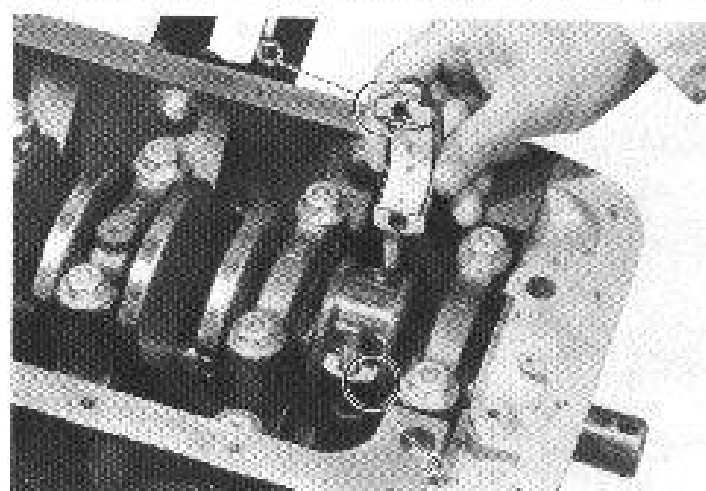
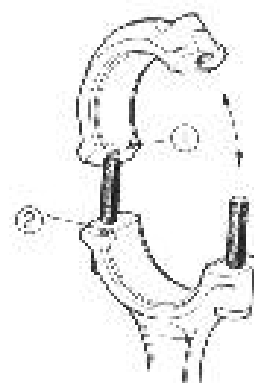

Fig. 3-111
Fig. 3-112
Two stoppers (1) (2), Fig. 3-112, determine the position of each big-end bearing cap relative to the big end. At the time of installing these caps, be sure to locate stopper (1) of cap in the direction of stopper (2).
The two stoppers do not coincide in longitudinal direction: the coincidence is meant in the direction shown in Figs. 3-111 and Fig. 3-112.